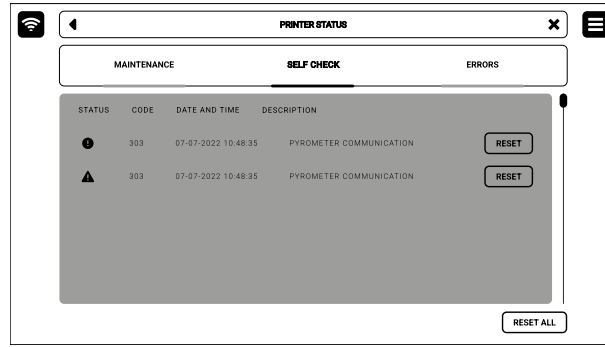

Fig. 12.4 The **ERRORS** screen.
- ERRORS** tab, in which you will see possible errors and messages of damage to printer components (fig. 12.4).